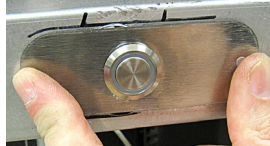

Figure 22
26. Insert the plate into position with the button switch inserted into the center opening (see Figure 22).